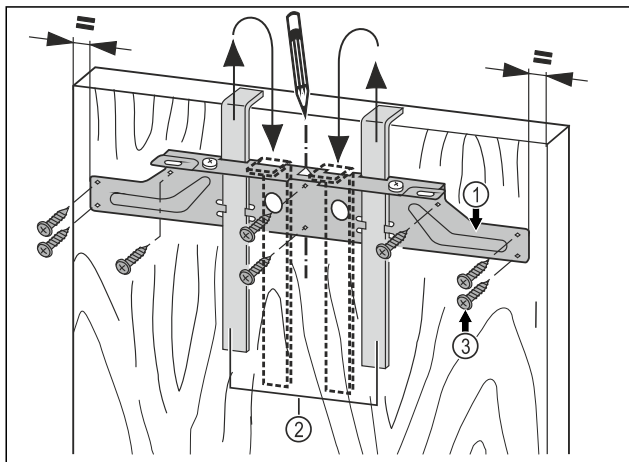

Fig. 17
- ▶ Hang the fastening bar Fig. 17 (1) with the mounting aids on the inside of the unit door Fig. 17 (2).
- ▶ Align the fastening bar Fig. 17 (1) in the centre of the door.
- ▶ Tighten the mounting bar Fig. 17 (1) with at least 6 screws Fig. 17 (3).
- ▶ Screw the mounting bar Fig. 17 (1) to the edge with 4 screws Fig. 17 (3).
- ▶ Pull the assembly devices Fig. 17 (2) upwards and push them, at an angle, into the receiving openings.